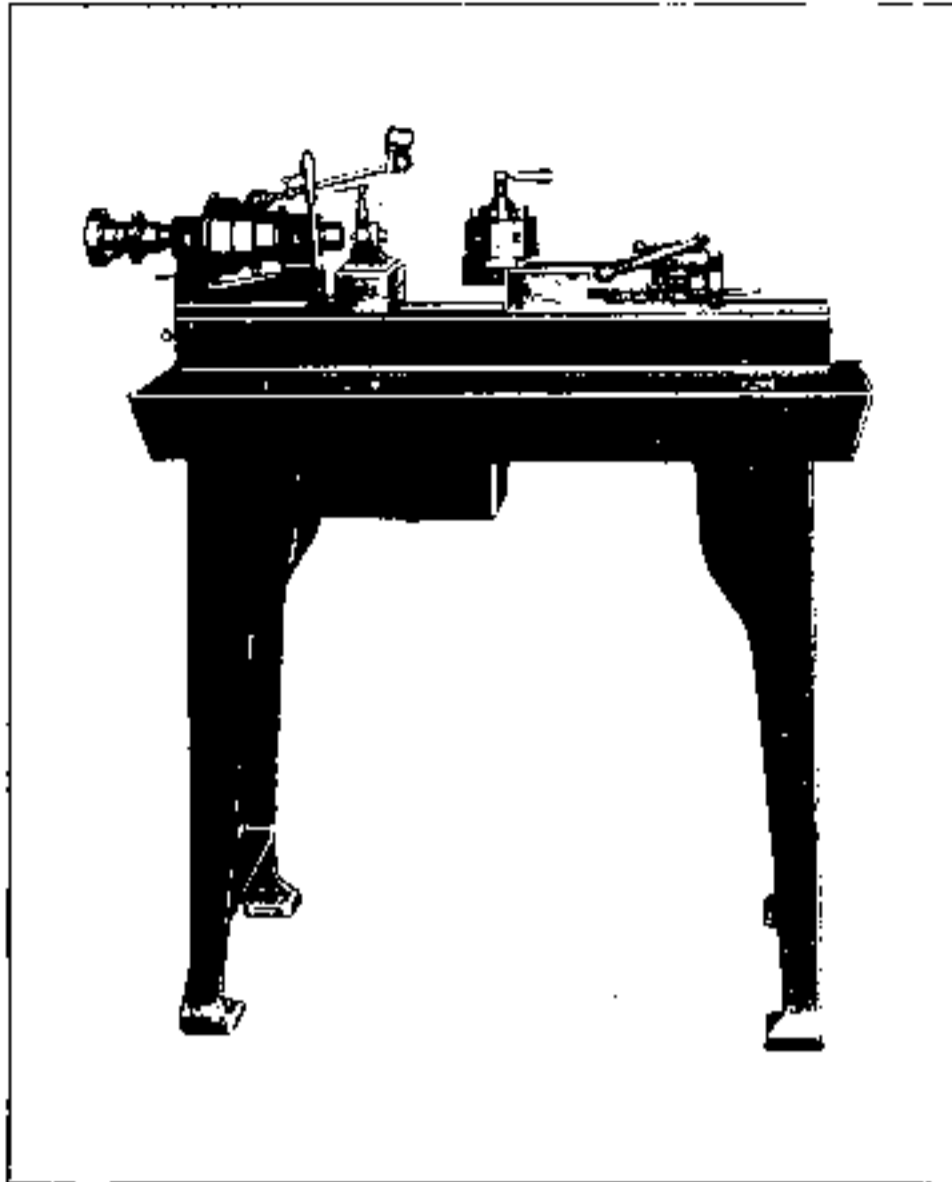

Fig. 43. Lathe with Lever Chuck Closer, Cutting-off and Forming Slide, Turret Attachment-Automatic Indexing, Oil Pan, Floor Legs, Oil Pump and Piping
**THE TURRET ATTACHMENT - HAND INDEXING** is valuable for making quantities of small duplicate parts where several operations are to be performed. A lathe equipped with turret, cutting-off and forming slide, lever chuck closer, and oil pan and floor legs, Fig. 43, is an inexpensive, efficient and accurate hand screw machine of  $\frac{3}{4}$ " round stock capacity.